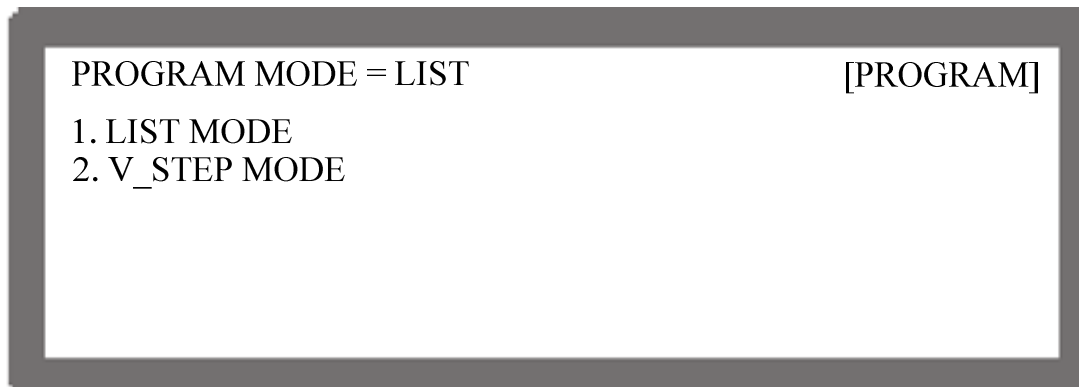

Figure 4-1
2. It displays PROGRAM options as Figure 4-1 shows.
4. Press “” to return to Figure 4-1.